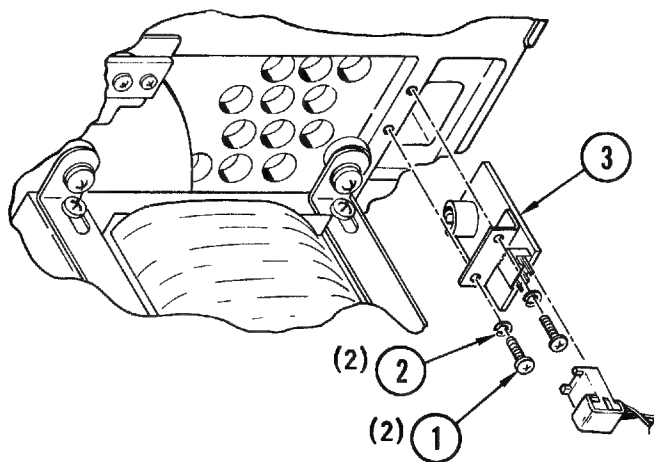

Figure 4-18. Tape-in-Path Sensor, Transmitter
**4-32. Removal and Replacement (Figure 4-18).** Place the transport in service access position in accordance with paragraph 4-3 and proceed as follows:
- b. Remove two screws (1, Figure 4-18) and lockwashers (2) and pull transmitter (3) carefully through hole from back of top plate.
- c. Position replacement sensor transmitter carefully in place through hole from back of top plate and secure with screws (1) and lockwashers (2).
- b. Remove attaching screw (1, Figure 4-18), lockwasher (2), and flatwasher (3) and remove tape-in-path sensor receiver (4). Save attaching parts for reassembly.
- c. Install replacement receiver using screw (1), lockwashers (2) and flatwasher (3).